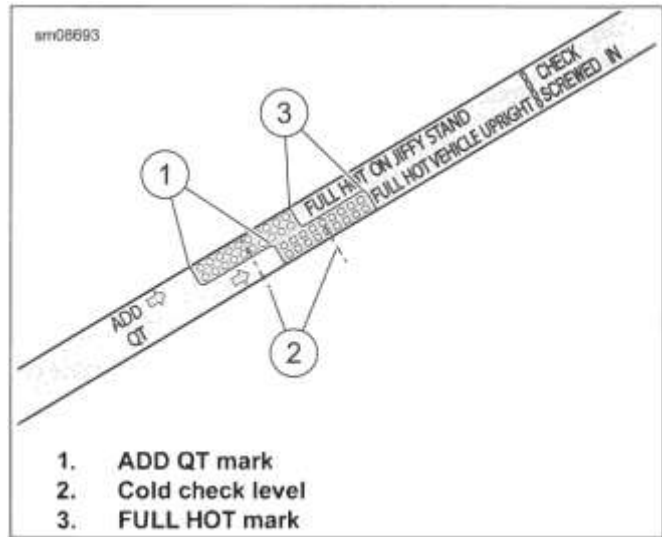

Figure 2-2. Engine Oil Dipstick
- See Figure 2-2. Check oil level. The correct cold oil level is midway (2) between the ADD QT (1) and FULL HOT (3) marks on the dipstick.
- Check oil level. Add only enough to bring level midway between the ADD QT (1) and FULL HOT (3).
- See Figure 2-2. Check oil level. Oil level must register between the ADD QT and FULL HOT marks on the dipstick.